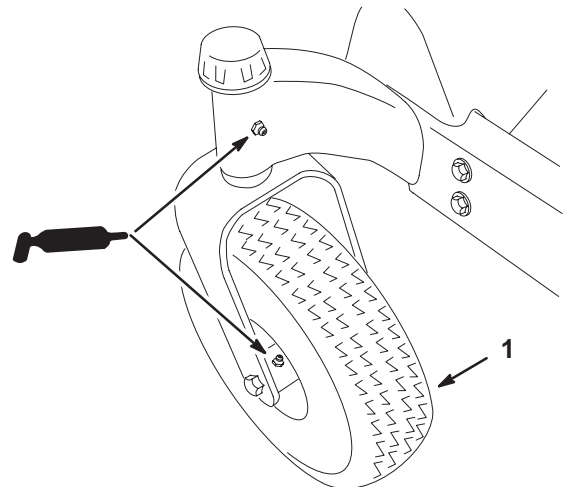

Figure 32
3. Grease the front caster pivot and drive wheels (Fig. 32).